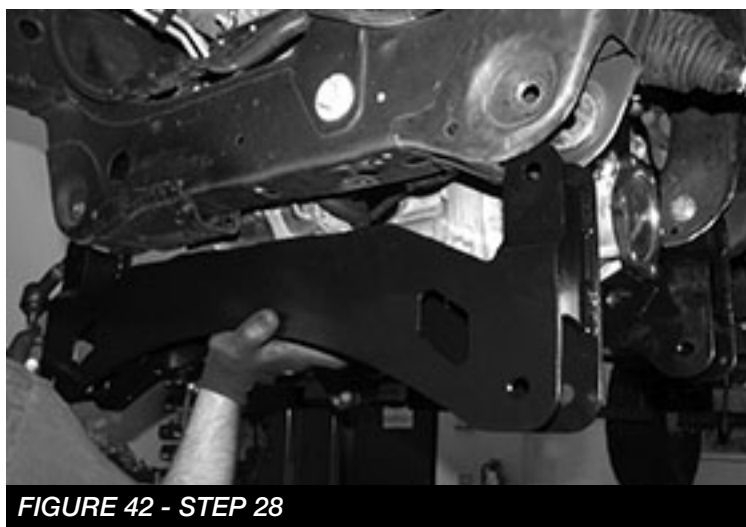

FIGURE 42 - STEP 28
28. Locate and install FT20738 (front crossmember) into the factory lower control arm pockets using the stock hardware. Leave loose at this time. **SEE FIGURE 42**